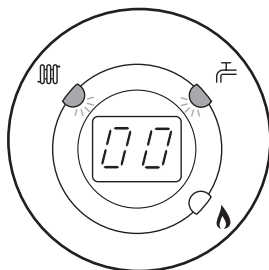
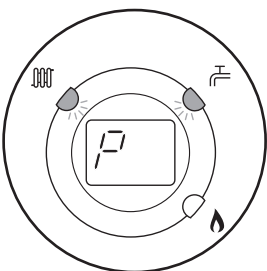

Fig. 58
Fig. 59
7. Turn CH temperature control knob fully clockwise. As the knob is turned the display will change from '0' to '00' (Fig. 58) indicating maximum rate, then revert to 'P' alternating with the current boiler temperature (Figs 59 & 60).